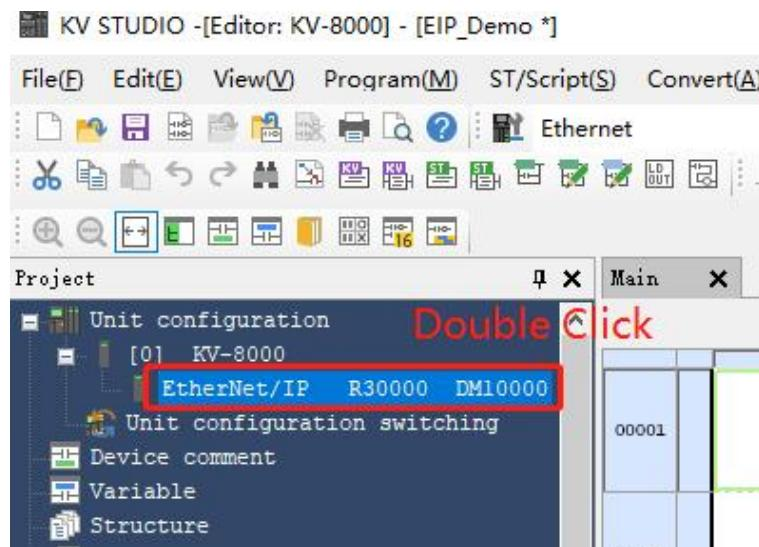
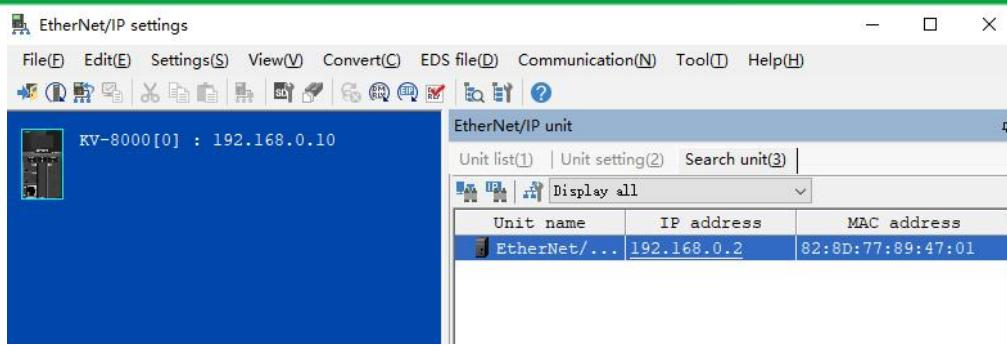

Figure 5-1-12
Figure 5-1-16
- Search for the EIP coupler as shown in Figure 5-1-12 to Figure 5-1-16.